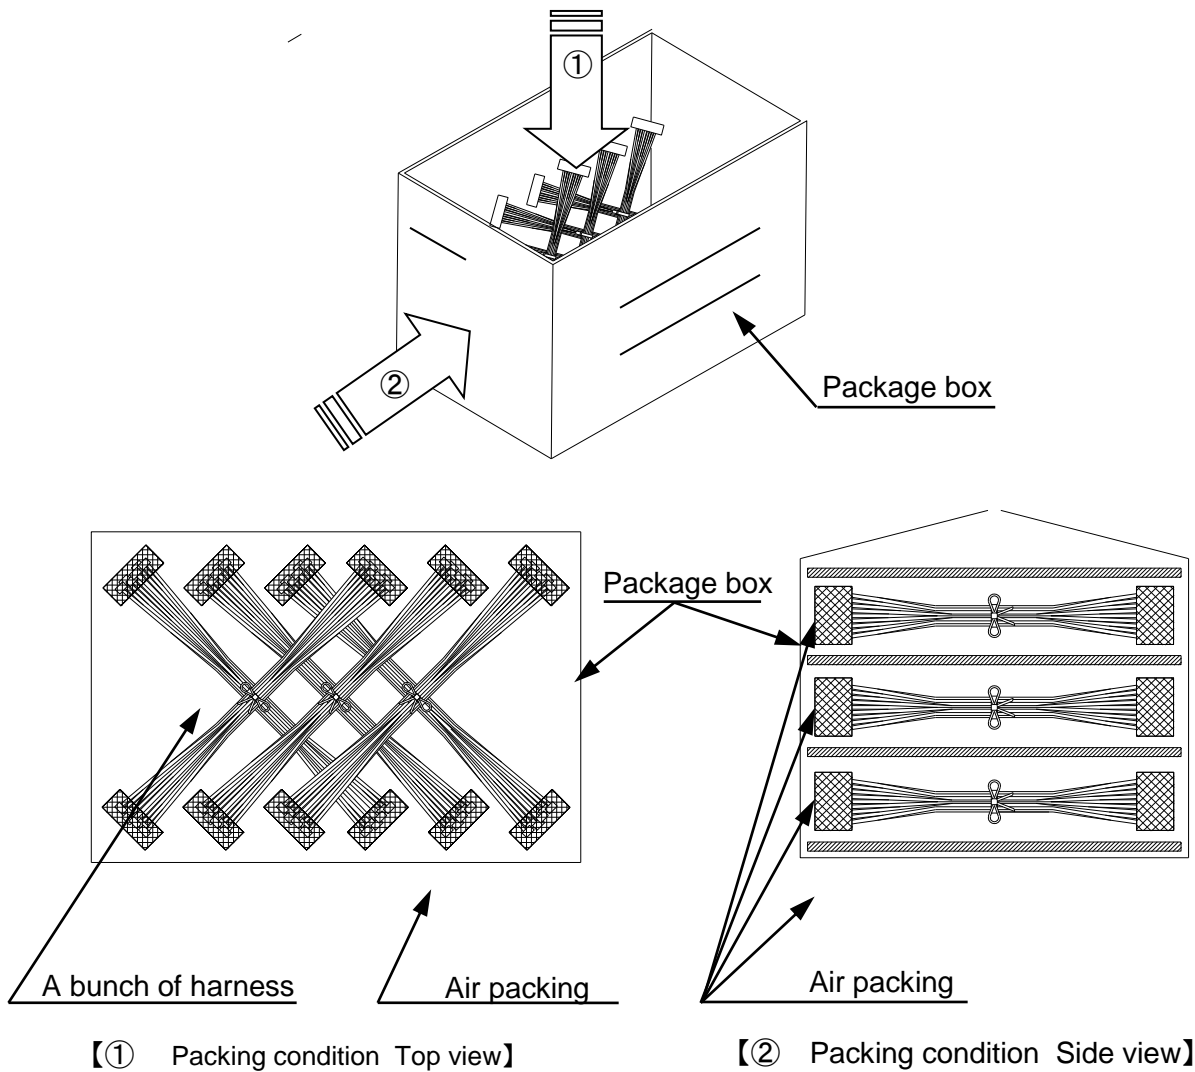

Fig.8-3 Packing condition
Figure below (Fig 8-3) Please take a measure not to add force to connector for a long period of time by stacking if you pack by different packing method for long harness.
- ※When packing bundle of harness after processing in a package box, please follow instructed packaging and avoid applying excessive load or force to harnesses. (cross shape) (Fig.8-3 ①)
- ※Please lay air packing etc. on the bottom of package box. In order to prevent force from applying to connectors for a long time by piling up package boxes, please lay air packing etc. (Fig.8-3 ②)